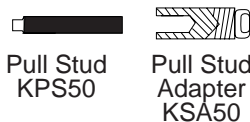

Figure 2
1. Thread the pull stud into the pull stud adapter end until firmly seated. (Figure 2)